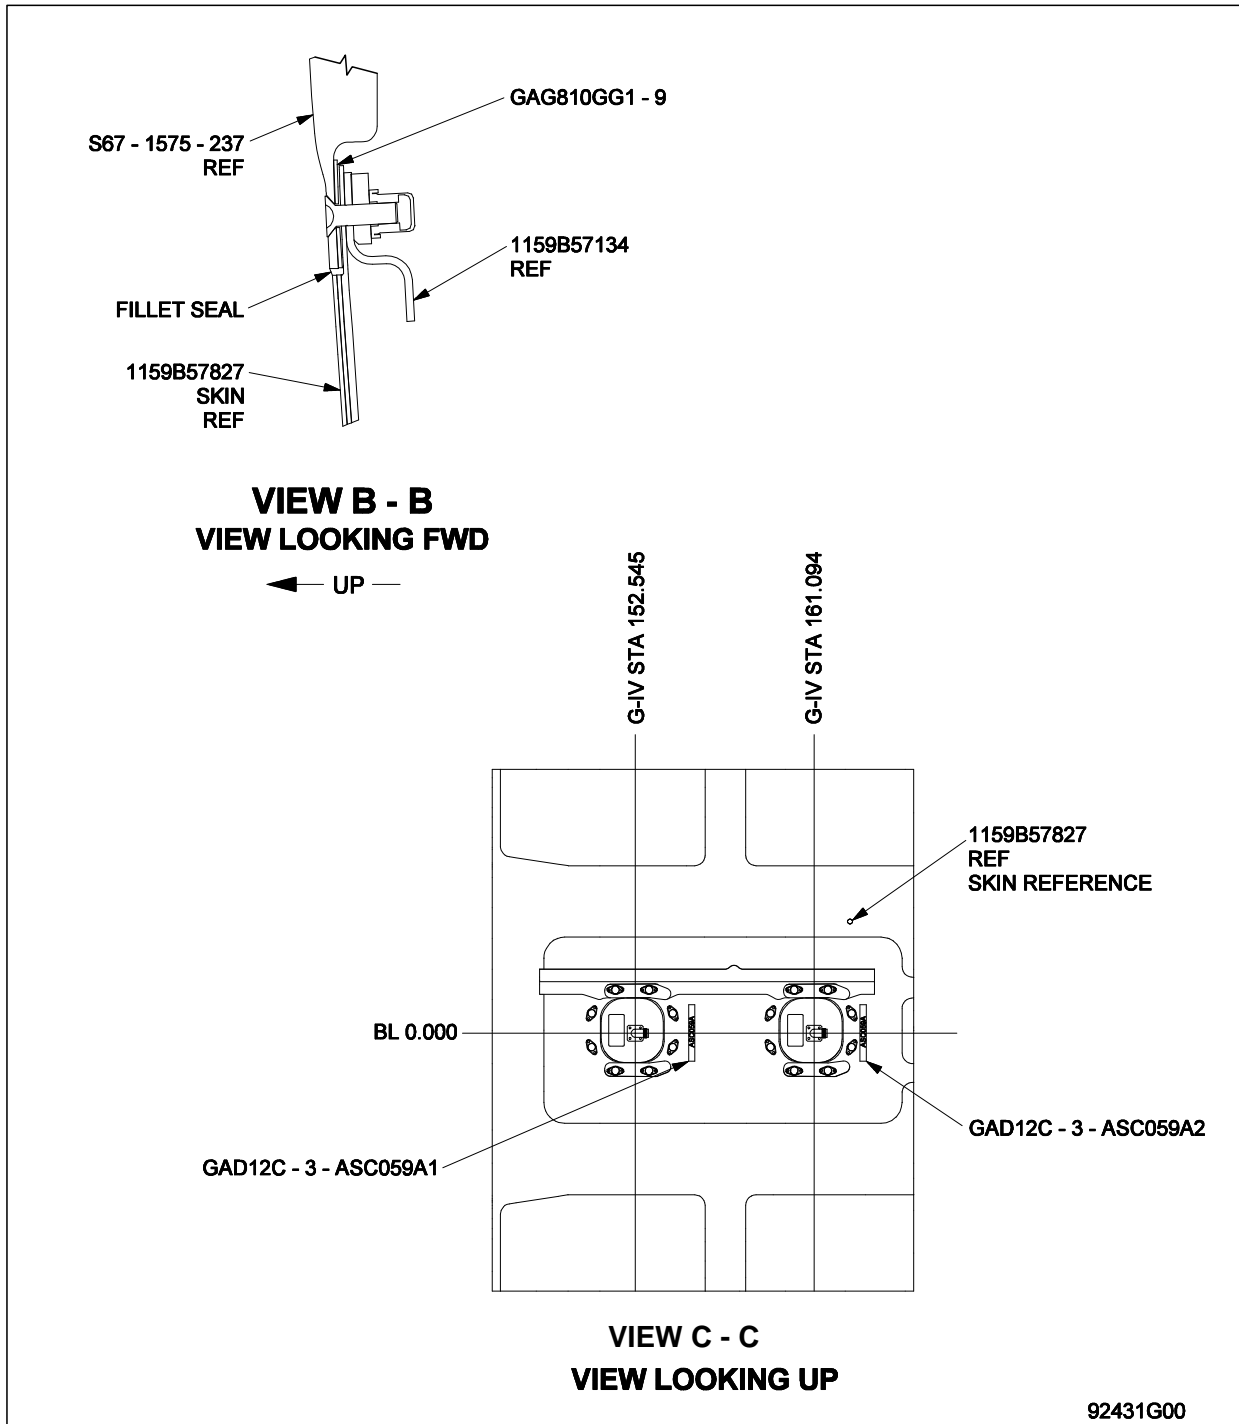

FIGURE 2 (4001 - 4193)
10. Locate decals approximately as shown in Figure 2, view C-C. Overcoat with clear epoxy top-coat extending 1/8th inch beyond edge of decal. Remove any existing decals if necessary.